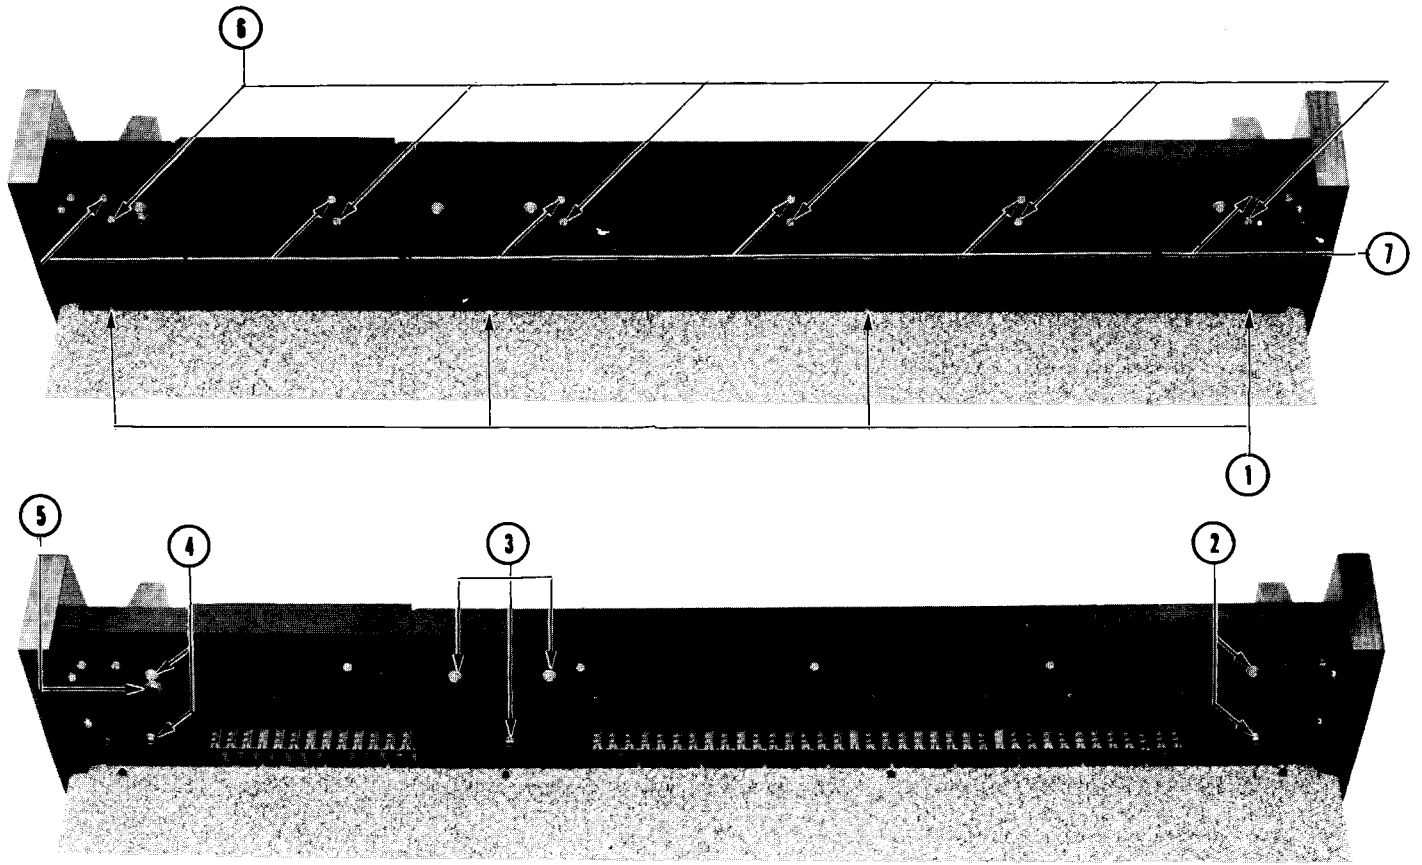

FIG. 7 - UNDERNEATH THE MANUAL VIEW
- c. Access to keyswitches may be obtained by removing keyswitch cover (Fig. 7). Remove six (6) screws from underneath the manual and loosen four (4) wood screws securing the keyswitch cover to lower frame.